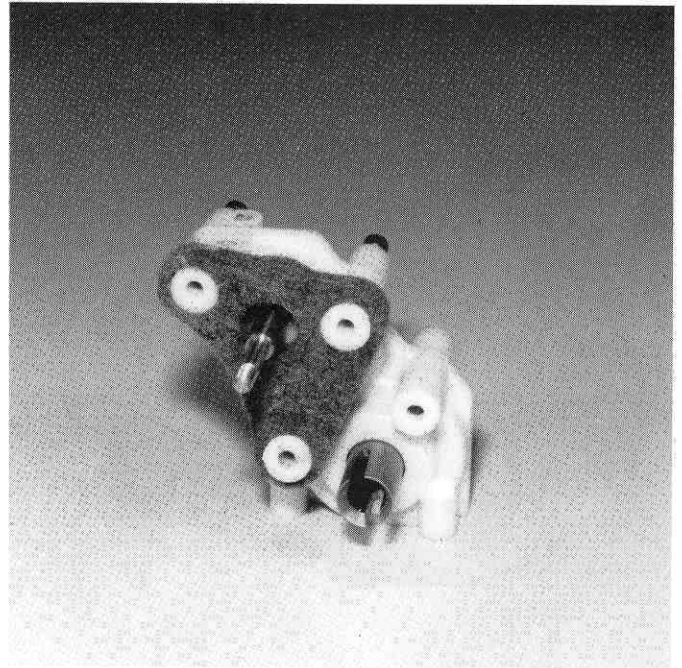

Fig. 58
□ **Fig. 58** Slip the felt dust shield on the three bolts as shown and slip the fourth plastic spacer on the other bolt.